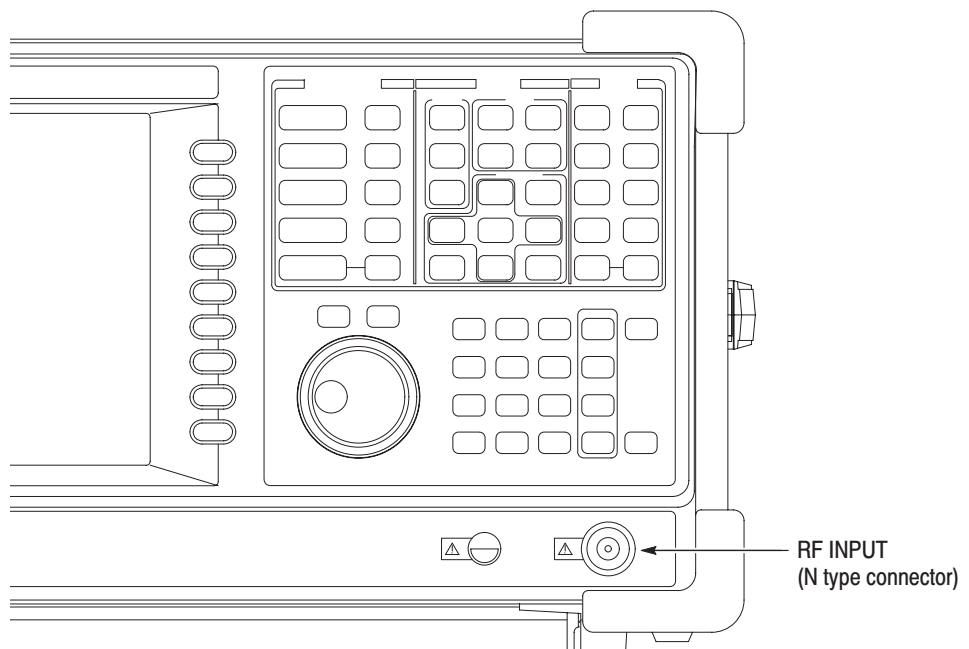

Figure 2-7: Cable connection
1. Connect the output of the signal generator to the RF INPUT connector on the analyzer front panel using a coaxial cable (see Figure 2-7).